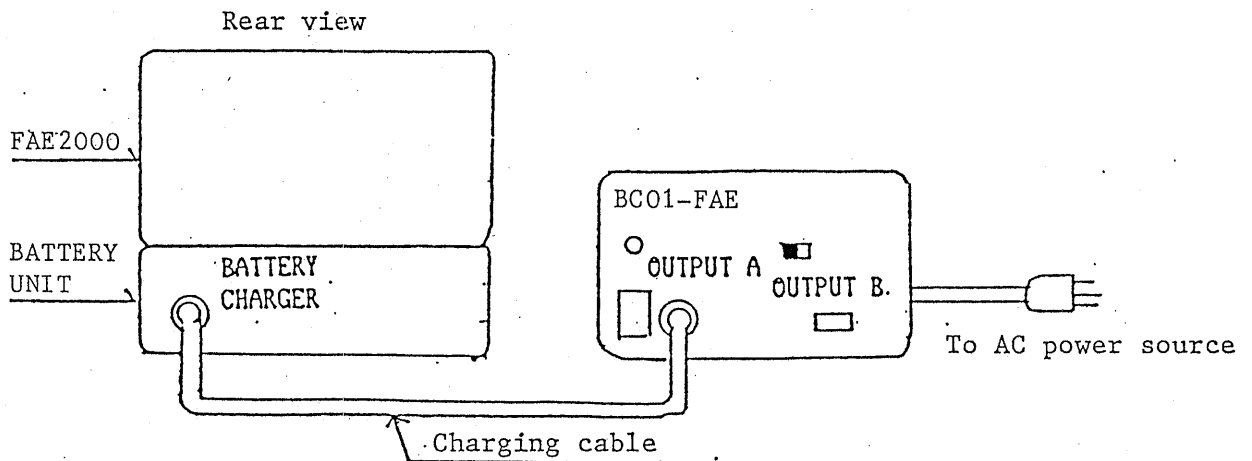

Fig. 13.1 Interconnections for Charging
- (1) Connect the BC01-FAE to an AC power source.
- (2) Connect the charging cable between "OUTPUT A" of the BC01-FAE and "BATTERY CHARGER" of the FAE2000 (Fig. 13.1).
- (3) Set the "OUTPUT SELECT" switch of the BC01-FAE to "A".
- (4) Set the POWER switch of the BC01-FAE to ON, and LED "POWER" will light on the BC01-FAE and LED "CHARGER" will light on the battery unit.
- (5) The status of charging is shown by how the "OUTPUT A" LED of the BC01-FAE lights. The LED lights when charging is started, blinks when the battery is 80% charged, and goes off when the battery is fully charged.